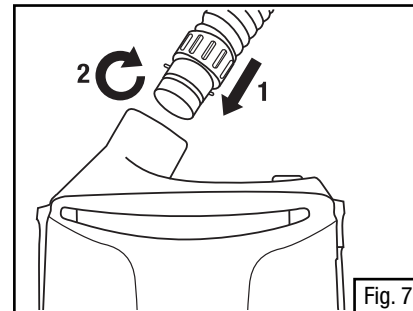

Fig. 7
1. Insert the end of the breathing tube with the bayonet fitting (two small prongs) into the parallel slots in the air outlet of the motor/blower (Fig. 7).